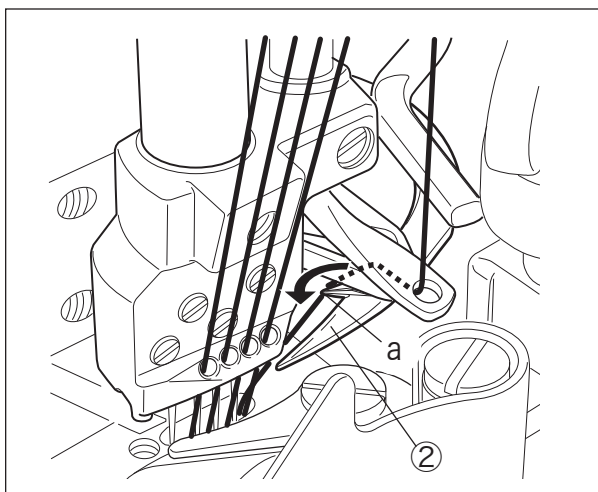

Fig. 6-36
Check that the spreader ② moves from left to right, and that the top cover thread get over the hook "a" of the spreader from right to left at a position 0.5 mm before the extreme right. (Refer to Fig. 6-36.)